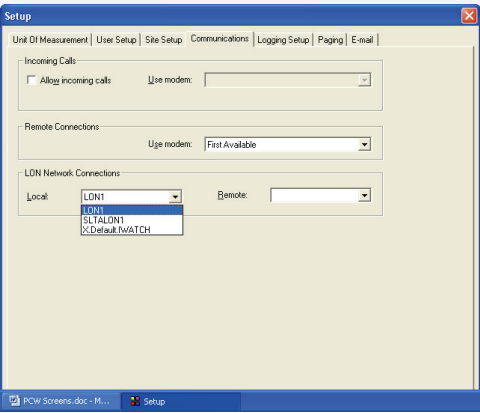

FIGURE 2-49. SELECTING THE NETWORK CONNECTION NAME
11. Open the Communications dialog and select the Local or Remote connection name (see Figure 2-49).